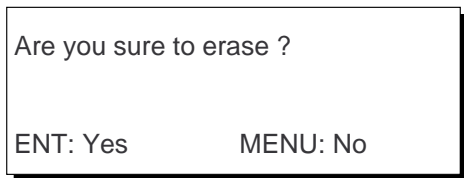

Figure 2-6 Prompt for erasure of track, mark
- 4) Press ▶ to select Yes. The message shown in Figure 2-6 appears.